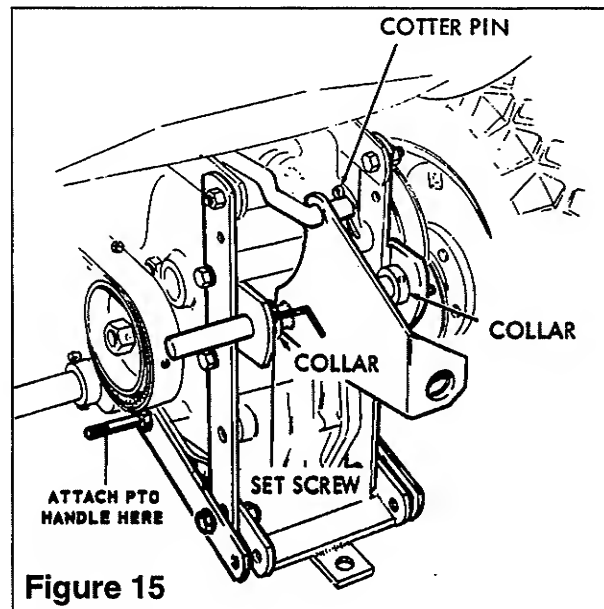

Figure 15
Engine - Service air cleaner and crankcase as recommended in engine service manual. Be sure air cleaner is maintained in clean condition. Never use oil in crankcase for more than 25 hours of operation. See Figure 15. **CLEAN AIR AND CLEAN ENGINE OIL WILL GIVE LONG TROUBLE FREE OPERATION. DIRT WILL RUIN YOUR ENGINE IN A SHORT TIME.** A funnel and extension are included with the tractor for use in changing oil.
3. Insert right end of lift assembly into hole in right hitch member and position lift assembly so that collar is flush against right hitch member. Position collar on left side of lift assembly so it is flush against left hitch member; tighten socket hd. set screw with Allen-Wrench. See Figure 15.
4. Connect lift assembly to Rear Lift Group. Secure with Cotter Pin. See Figure 15.